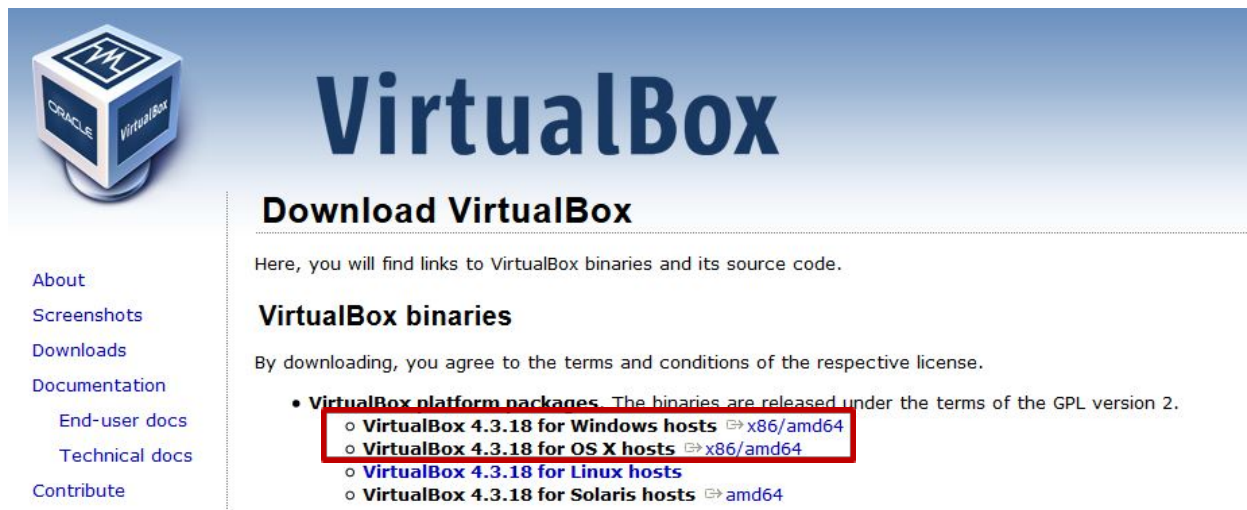

Figure 2: VirtualBox download page
VOLTTRON has been developed for deployment on Linux operating systems. To use VOLTTRON on a Mac or Windows system, VOLTTRON must be deployed on a virtual machine (VM). A VM is a software implementation of a machine (i.e., a computer) that executes programs like a physical machine. A system VM provides a complete system platform, which supports the execution of a complete operating system (OS). These usually emulate an existing architecture, and are built with the purpose of providing a platform to run programs where the real hardware is not available for use. This document will describe the steps necessary to install VOLTTRON on a Windows system using Oracle VirtualBox software (Figure 2).
VirtualBox is free and can be downloaded from <https://www.virtualbox.org/wiki/Downloads>. Figure 2 shows the VirtualBox download page. The Windows and Mac host OS is shown boxed in red in the figure.